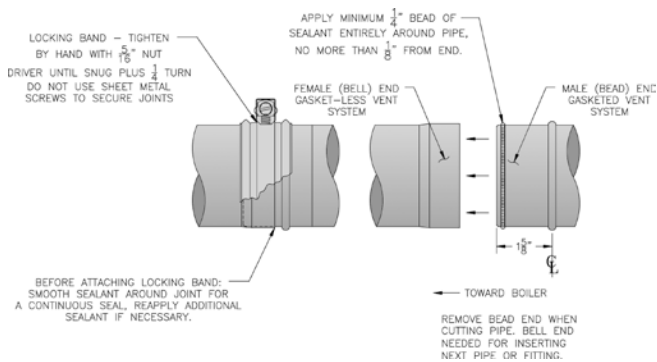

Figure 8C: Burnham Gasket-Less Female and Gasketed Male Vent Joint Detail
2. Procedure for joining the female end of Burnham Gasket-Less Vent with the male end of Burnham Gasketed Vent. See Figure 8C.